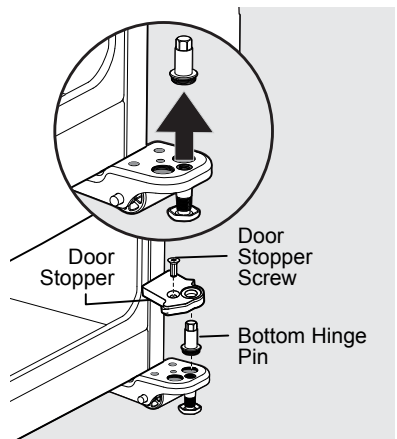

Figure 4
9. Remove the screw from the door stop. Using a flat head screwdriver, gently pry the door closer off of the lower hinge pin. Using an adjustable wrench, remove the lower hinge pin (see Figure 4).